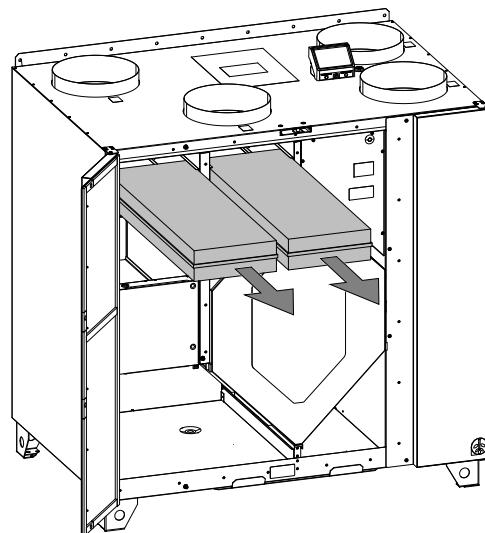

Fig. 3 Changing of filters
1. Change filters as shown in below illustration (figure 3).